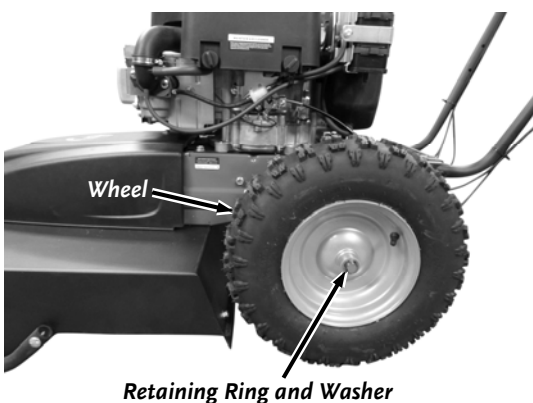

Figure 25
1. Block the machine so the Wheel you are removing is off the ground (**Figure 25**).